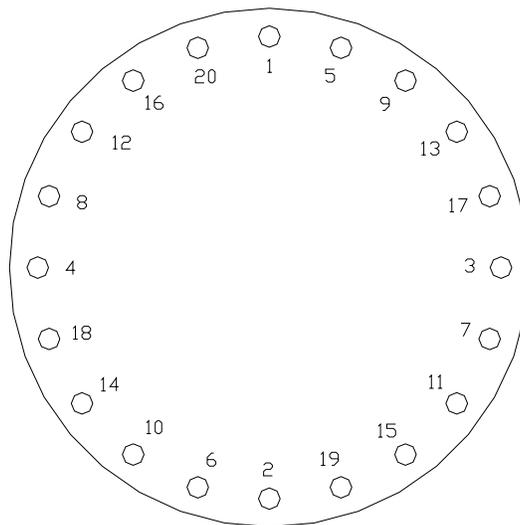

Figure 1.24 Tightening sequence for the 20 Conflat bolts.
- 1.24 At Fermilab, the Conflat bolt holes on the power lead flange have been numbered 1 through 20 as indicated by Figure 1.24.